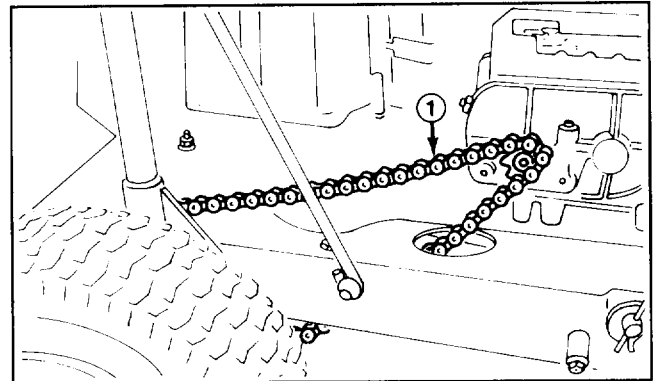
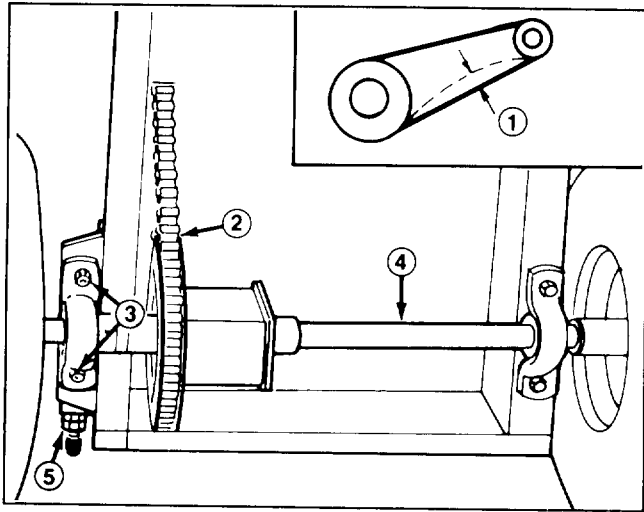

Figure 24
Figure 25
2. Check deflection of drive chain by lifting up and pressing down on chain with moderate pressure at mid span (Fig. 24). There should be 1/8 of an inch (3 mm) total deflection (Fig. 25). If deflection is not as specified, an adjustment is required – steps 3-13.
7. Loosen four flange nuts securing pillow blocks w/differential axle to the rider frame (Fig. 25).
8. Loosen rear jamnut on chain tensioner (Fig. 25).
11. Since differential axle must be parallel to rear of chassis, measure distance from center of pillow blocks to rear of chassis (Fig. 25). Difference between the two measurements must not exceed 1/8 inch. If difference exceeds 1/8 inch, differential axle is not parallel with chassis; therefore it must be readjusted.